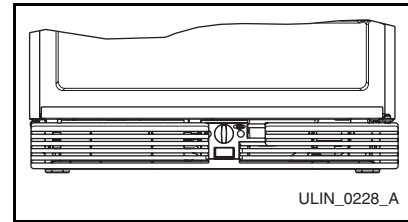

Figure 2
**Proper air flow (Figure 2) is required for your unit to operate at its highest efficiency. A grille, located in the base of the unit, must not be blocked at any time, or your unit will not perform as expected.**